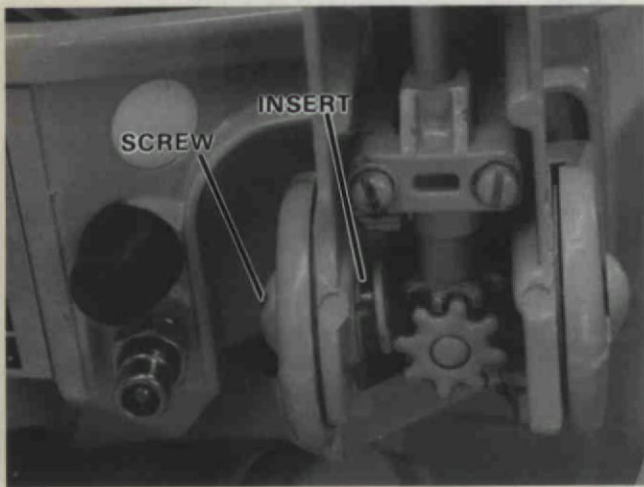

Figure 3. Tapping Insert to Free Handle.
- D. Tap head of screw to drive insert far enough toward gears to remove steering handle from bracket. Figure 3.